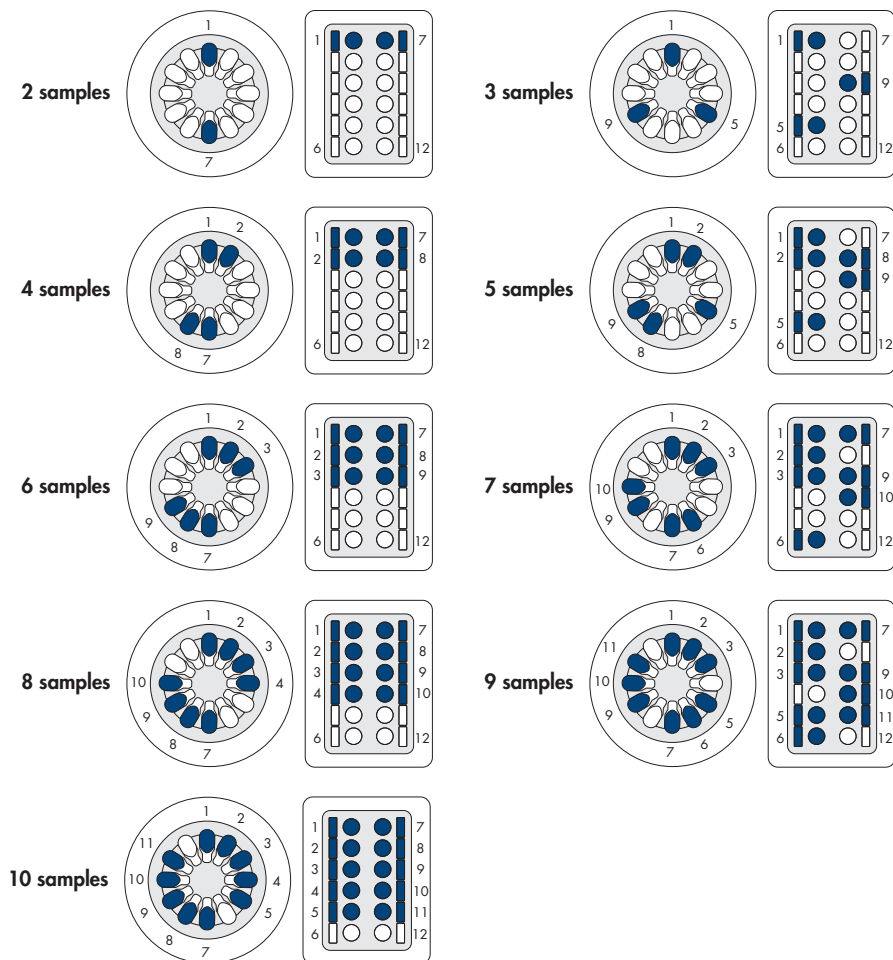

Figure 19 Centrifuge and shaker positions are shown for processing from two (2 samples) to ten (10 samples) samples. One or 11 samples cannot be processed.
❶ If processing fewer than 12 samples, make sure to load the centrifuge rotor balanced radially (see Figure 19). All centrifuge buckets must be mounted before starting a protocol run, even if fewer than 12 samples are to be processed. A single (one) sample or 11 samples cannot be processed.